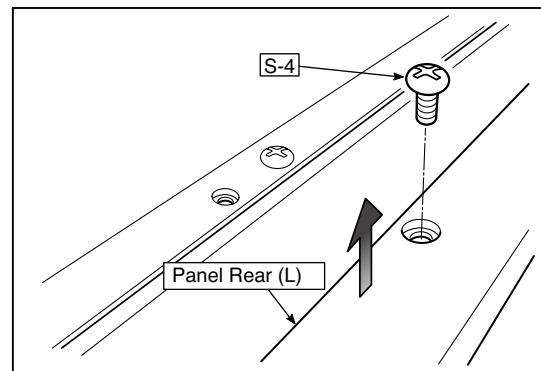

Fig.26
- 2.Remove the "S-4" screws shown in the figure 26 and then remove the Panel Rear (L).